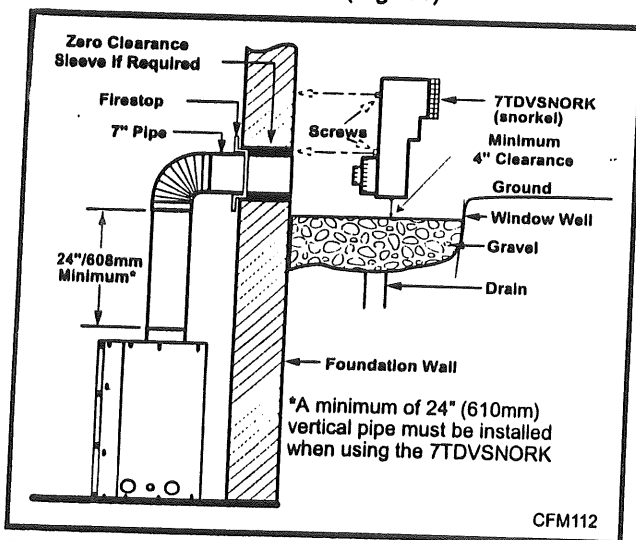

Fig. 31 Below grade installation.
2. Remove soil to a depth of approximately 16" (406mm) below base of snorkel. Install drain pipe. Install window well (not supplied). Refill hole with 12" (305mm) of coarse gravel, leaving a clearance of approximately 4" (102mm) below snorkel. (Fig. 31)
7. Level the soil so as to maintain a 4" (102mm) clearance below snorkel. (Fig. 31)